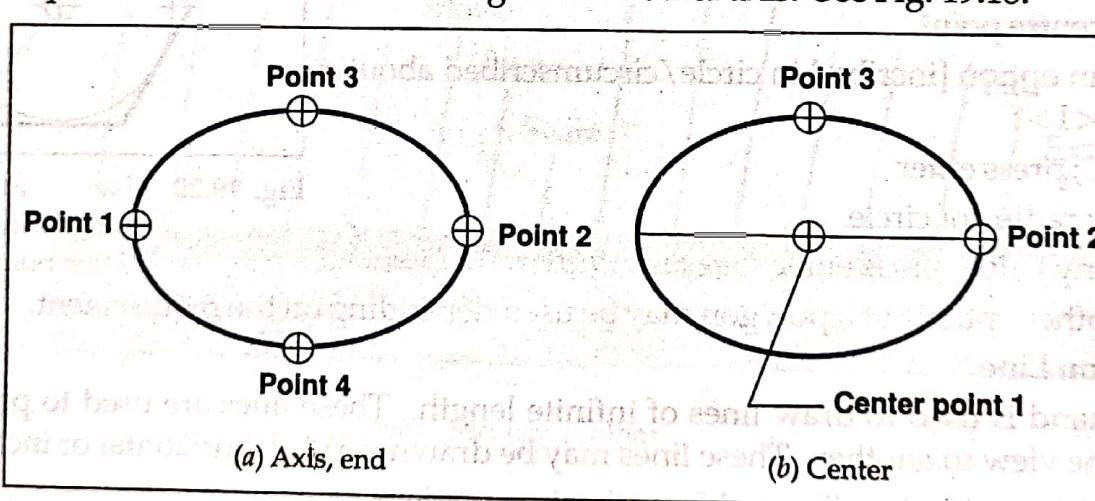

Fig. 19.18 Drawing an ellipse - specifying various options
- Select a point that defines half the length of the other axis. See Fig. 19.18.